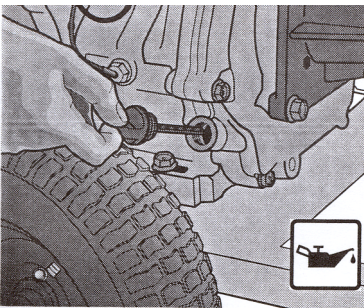

Fig. 3: Oil Dipstick
- e. Check and fill the gas tank (Fig. 3). Leave ½-1 inch at the top of the gas tank to allow for expansion. Use 86 Octane or higher. Wipe up spilled fuel. **GASOLINE IS HIGHLY FLAMMABLE AND EXPLOSIVE! STOP ENGINE WHEN REFUELING AND AVOID SPILLS!**